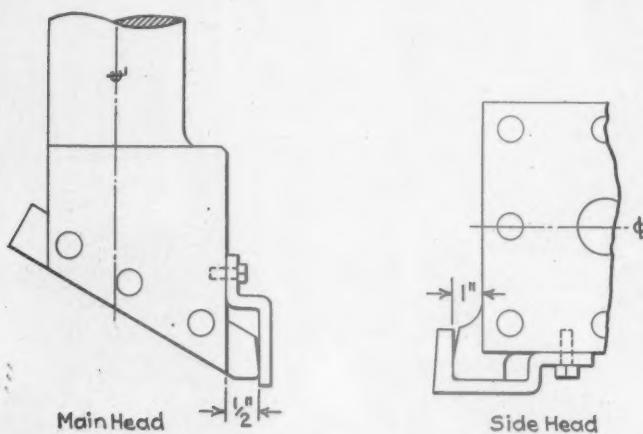
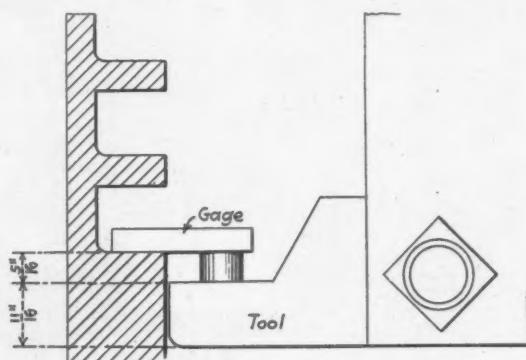
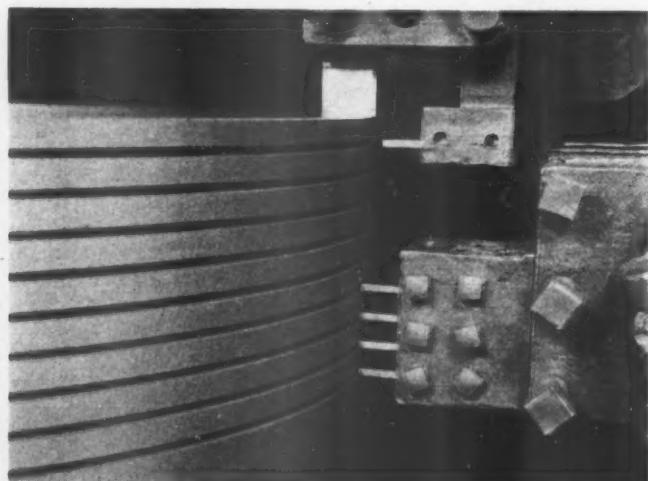

Fig. 4—Gages used for setting boring and turning tools
Fig. 6—Gage for setting the grooving tool for the L-rings
Fig. 7—The gang tool cutting grooves in the tub—The parting tool is shown at the top ready to be used, while the facing tool is seen in action
The gages shown in Fig. 4 are used to obtain correct inside and outside diameter of the tubs without the use of pin or snap gages. These gages are placed in the
is removed for grinding it is relocated in the holder by using the gage shown in Fig. 4.
by lining up the bottom of the upper one of the four tools in the holder with the finished top surface of the tub. The remaining three tools are then fed into the work to cut three grooves. For the next four grooves the gang tool is set by the use of a gage similar to that shown in Fig. 6 by means of which the location of the top one of the four tools is established. This procedure is followed after each set of grooves is completed until all of the grooves for the 22 rings have been cut. After the first seven grooves have been cut and while the remainder of the grooves are being cut, the combination tool in the main head in Fig. 7 and at Y in Fig. 3 (C) is brought into use. This tool faces the top and inner face of the ring and also cuts a fillet on the inner edge of the ring. The parting tool of the combination is then fed into the groove and cuts off one ring.
Fig. 4. The feed on the boring and turning operation is .068 in. and the cutting speed 100 ft. per min. After the tub has been bored and turned the next operation is to cut the grooves for all of the 15 rings. The groove for the first ring is cut, with the tool shown in Fig. 2 (A), $\frac{1}{2}$ in. wide and $\frac{3}{4}$ in. deep, and the 14 successive grooves are cut in the tub $1\frac{1}{8}$ in. wide and $\frac{3}{4}$ in. deep. After the first groove has been cut at the top of the tub the gage shown in Fig. 6 is used to establish the position of the grooving tool for the next cut. This gage consists of a short bar with a button exactly $\frac{5}{16}$ in. (.3125) in height on the bar. The bar is laid on the bottom surface of the last groove cut and the tool in the side head tool post is run up until it touches the button on the gage.